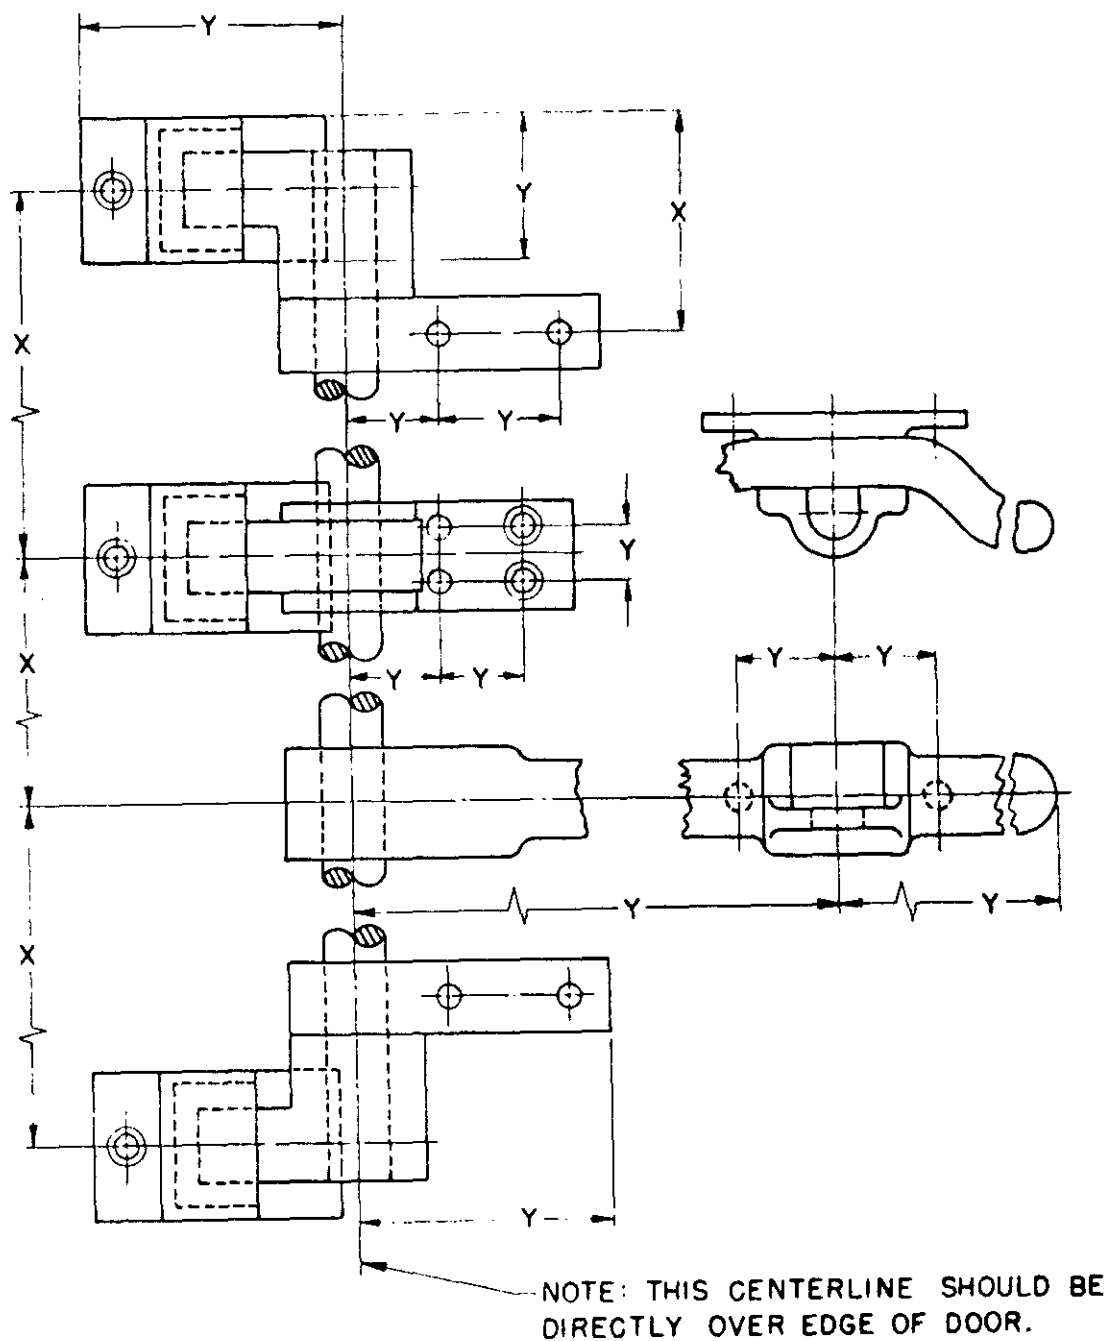

FIGURE 1. LOCK, DOOR, VAN—CAM.
5.1 Dimensions. All "X" dimensions used in figures 1 through 15 shall be established by individual installation requirements. All "Y" dimensions indicate manufacturer's standard practice.